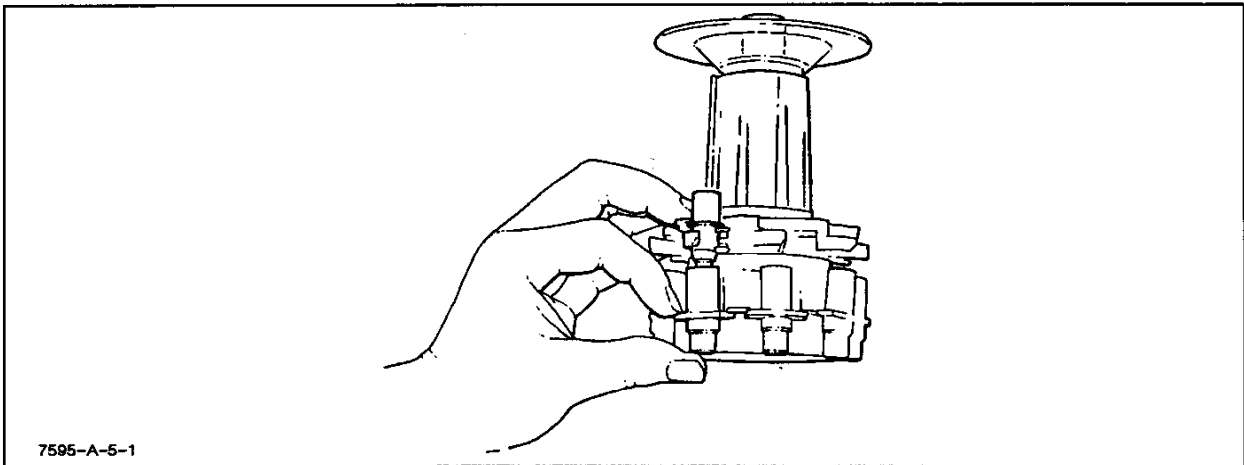

Figure 3-5. Pen Loading
- d. Slip the pen into the pen stable so that the pen collar is engaged between the stable pawl and the carousel top plate. See Figure 3-5. Make sure that the pen is firmly positioned in the stable.